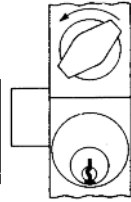

Figure 3-1
- A. To clear any previously depressed code buttons, turn the thumb turn to the left (counterclockwise) and release (**See Figure 3-1**).